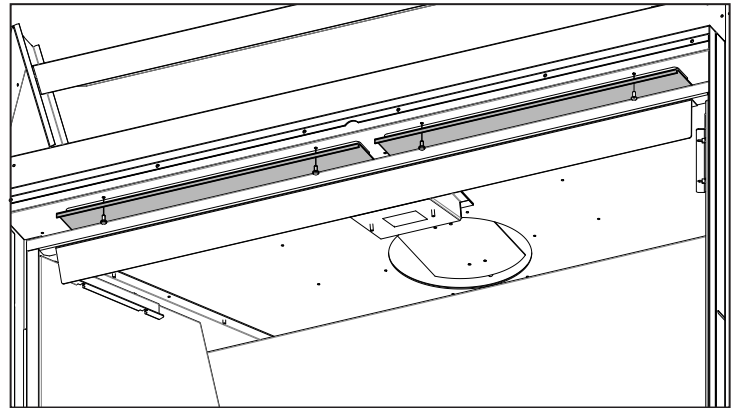
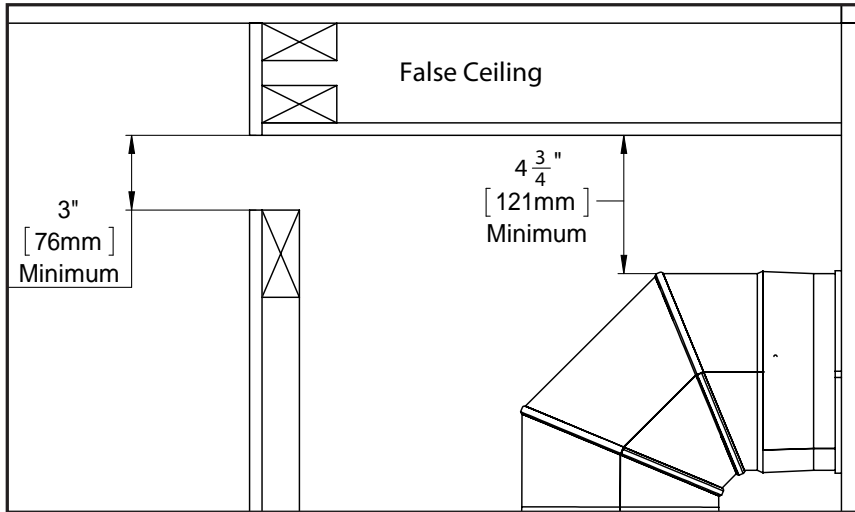

Figure 39: CSS Cover Plates
Figure 42: False Ceiling
**Step 4.** Remove the two cover plates on the ceiling of the unit. These are secured by four (4) T-20 screws. See Figure 39.
**Optional: False Ceiling** - If your ceiling dimension is greater than the minimum (Figure 39) You may want the CSS Air discharge lower on the wall. To do this a false ceiling is required to properly evacuate the heat from the chase. (See Figure 42).